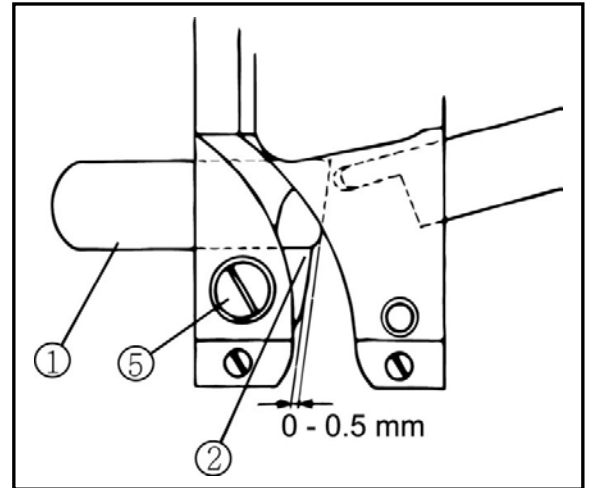

Fig. 31
The standard position of the lower knife ① is to keep a distance between the tip of lower knife ① and the edge of lower knife clamp ② at 0 - 0.5 mm. (Fig. 31)